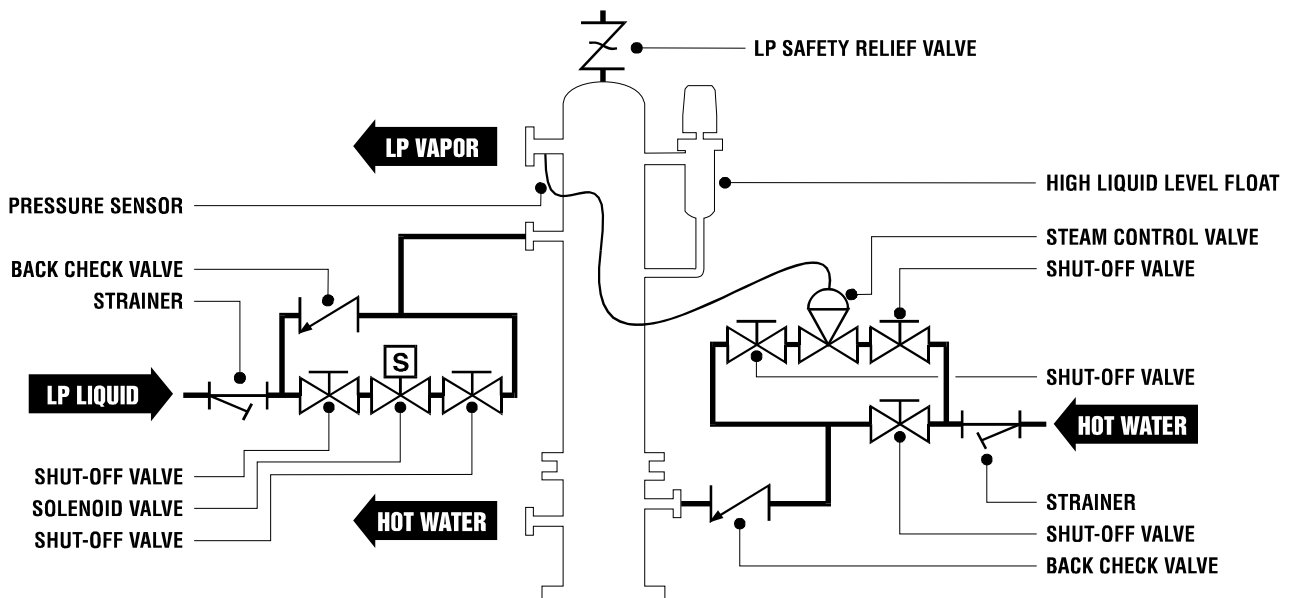

Figure 5-1 - Typical VS Series Installation
5.02 After consulting with the Ransome Sales and Service Engineer or Distributor and reviewing Figure 5-1, the user will make a plan for the LP-Gas storage and Vaporizer location.